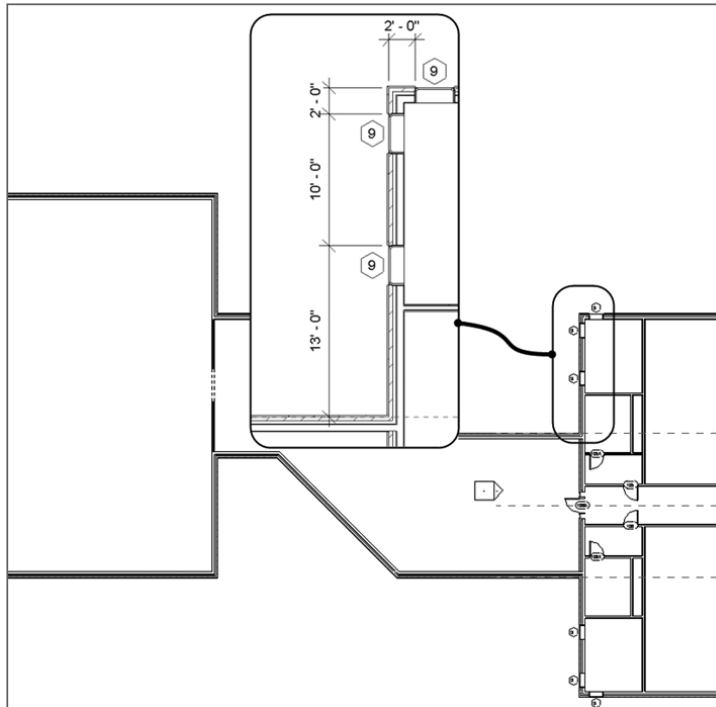

FIGURE 2.79: Placing the windows in the corner of the building and mirroring them
4. Add two more windows to the west wall adjacent to the wall in which you just put the first window. Use your temporary dimensions to ensure that you're placing the windows at the increments shown in Figure 2.79. You'll have to place the windows and then use the temporary dimensions to move them to the proper dimensions in a similar manner to the first door you placed earlier in this chapter.
5. Mirror the windows and tags using the center horizontal reference plane (see Figure 2.79).